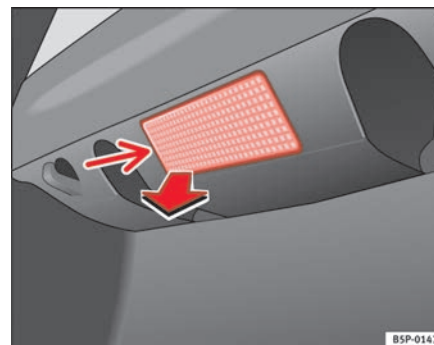

Fig. 198 Luggage compartment light
- Extract the tulip shaped fitting by pressing on the inside edge of this -arrow- using the flat side of a screwdriver ⇒ fig. 198. ►